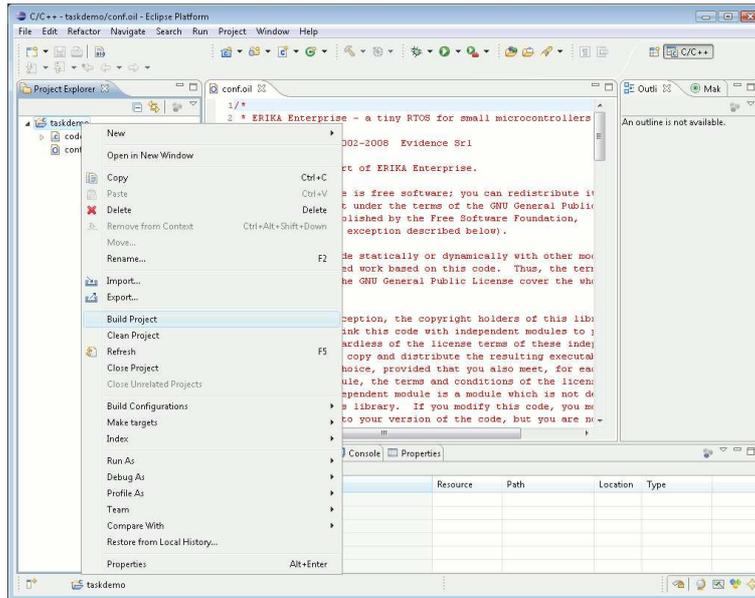

Figure 5.4: We are now able to build the project.
5. We are now ready to build the demo. Right click on the project name in the Eclipse navigation bar, and choose “Build Project”1 (see Figure 5.4).